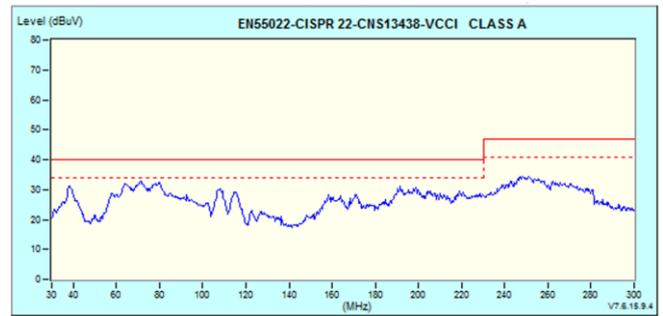
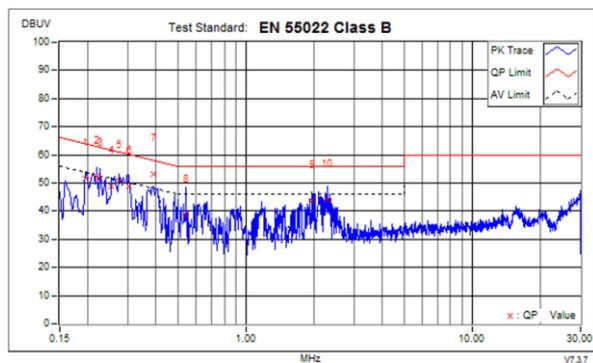

Figure 21. Radiation emission
Figure 20. Conduction emission
The conduction emission (CE) and the radiation emission (RE) are shown in Figure 20. and Figure 21., CE and RE are both satisfying the noise standards.